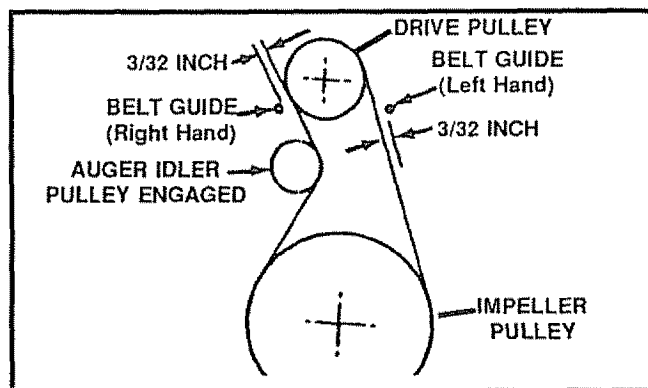

FIG. 26
- Loosen the right hand belt guide (See Fig. 26) and pull away from the drive pulley.
- Measure the distance between the belt guides and the belt (See Fig. 26). The distance should be $3/32$ " for each guide.